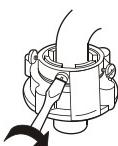

Figure 4
- 4 Fasten the four screws evenly. See to Figure 4.